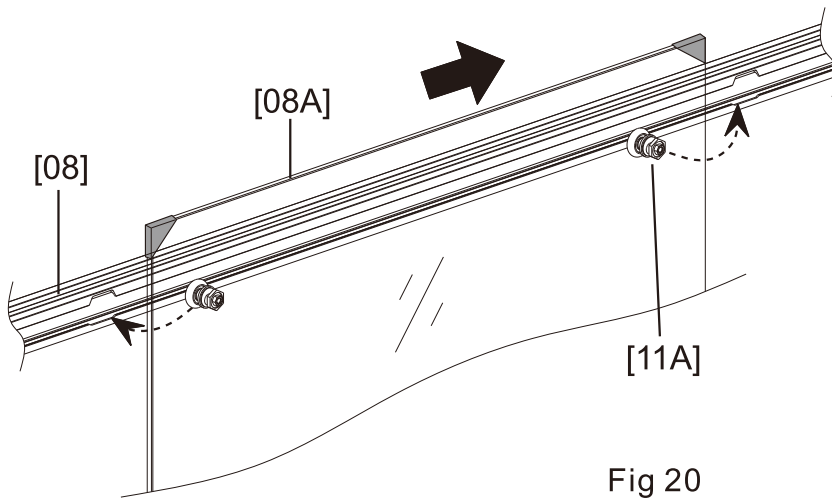

Fig 20
1. From inside the shower, hang the inside **Door Panel [08B]** first. Insert left wheel into the notch in the **Support Bar [02]**. Slide the door to the right and insert the other roller wheel into the second notch while inserting the Glass into the **Bottom Guide [17]**. Add some **Lubricant [23]** to the **Inner Wheels [11A]** if necessary (Fig 20).